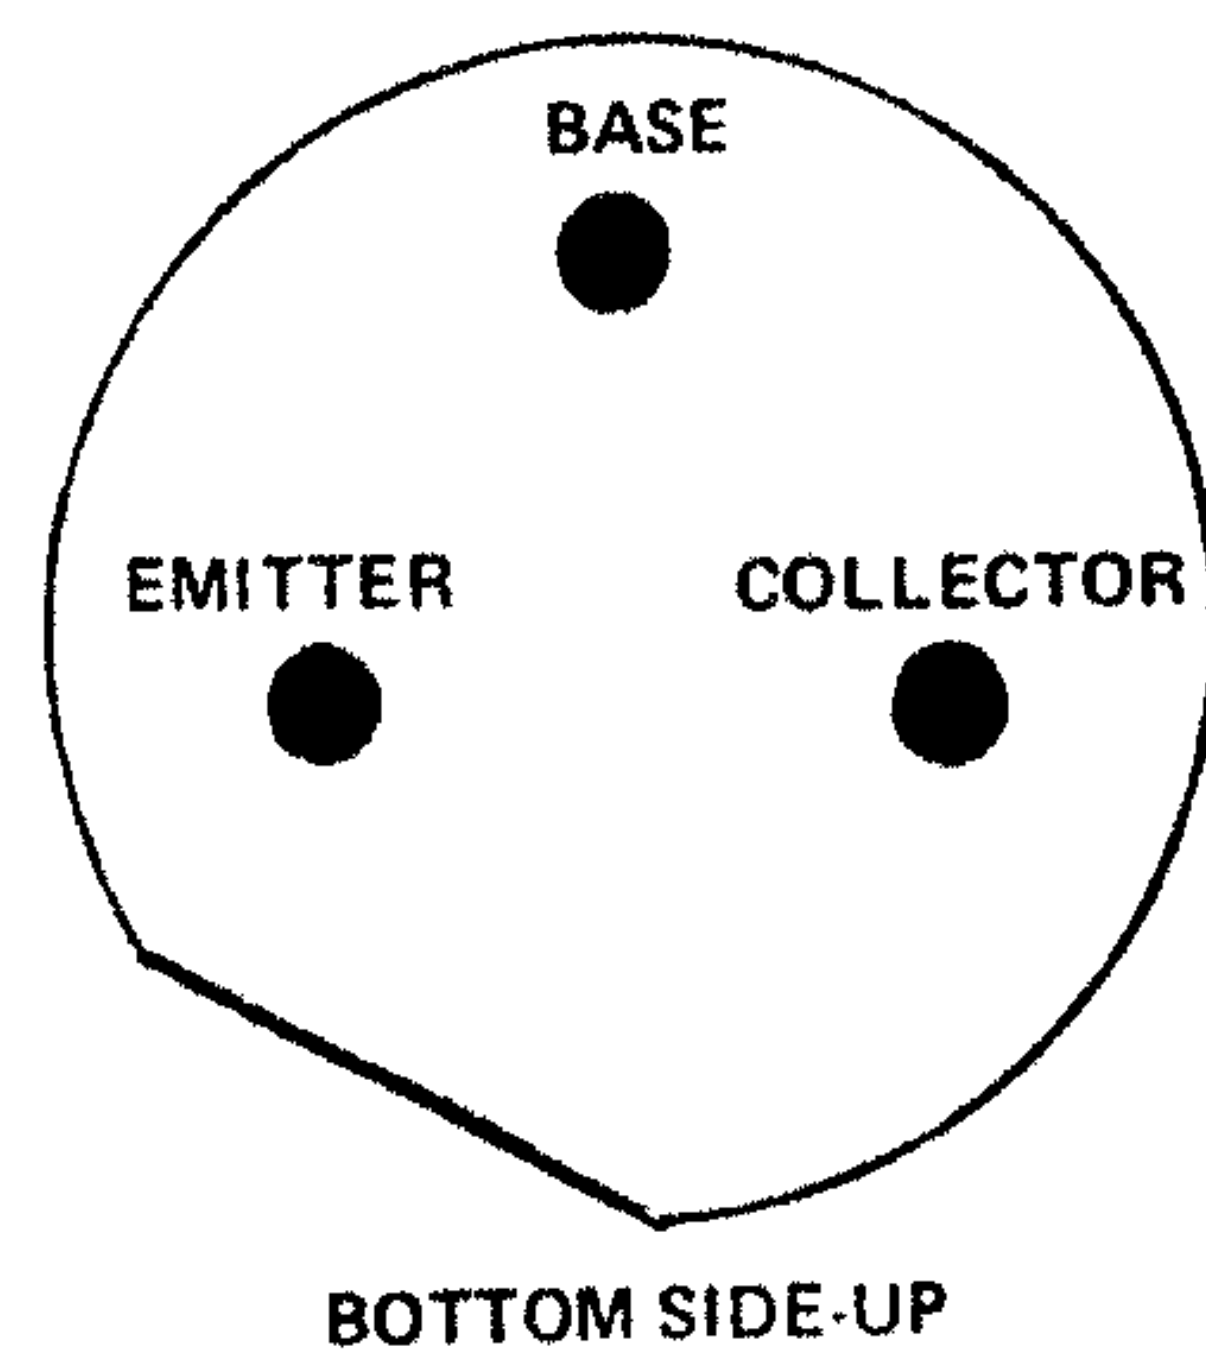

Fig. 3
- 21. Place the Transistor Q_1 (silicon type with rounded top) in holes 43, 44 & 45. *Emitter* in hole 43. *Base* in hole 44. *Collector* in hole 45. Make sure $\frac{1}{4}$ " of insulation is on the base lead. Transistor should stand $\frac{1}{4}$ " above the surface of the printed circuit board. Bend leads on copper clad side to hold transistor in place till soldered. Note Fig. 3, page 16 for identifying the transistor leads.